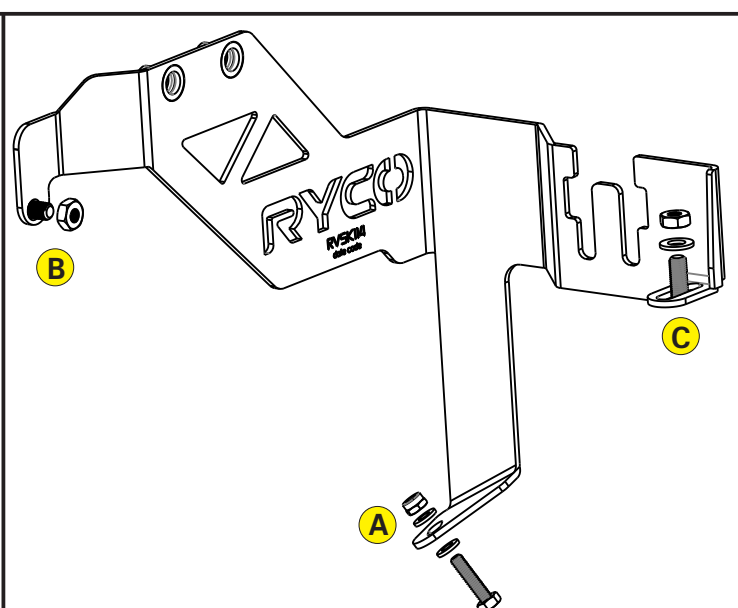

FIG. 2 BRACKET INSTALLATION
5. Tighten all three (3) fasteners as per Fig. 2.